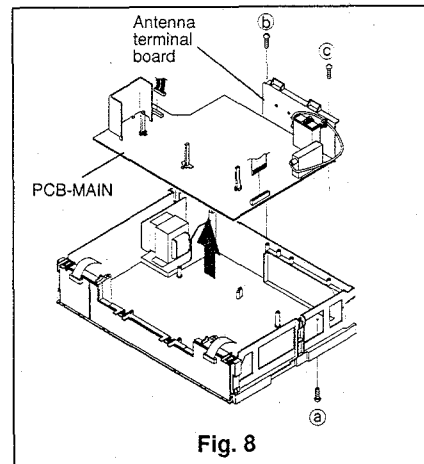

Fig. 8
- ⑤ If necessary to remove PCB-MAIN completely, remove the Assy Deck. (Refer to Para. 5 of the DISASSEMBLY.) Remove all connectors on the PCB-MAIN. Remove one fastening screw (a) on the bottom and two fastening screws (b and c) on the Antenna Terminal Board shown in Fig. 8. Raise the PCB-MAIN upward to remove it.